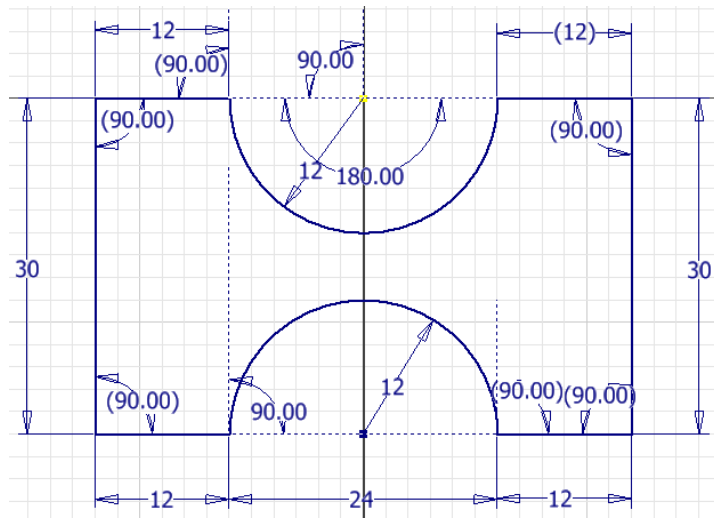

Figure 2-94 Final sketch for Tutorial 2
17. Exit the **Line** tool. The final sketch for Tutorial 2 is shown in Figure 2-94.